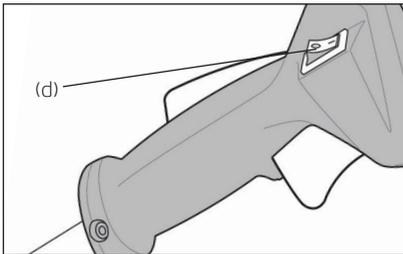

Fig 3 - Set the ignition switch (d) to the START (I) position.
- Set the ignition switch to the START ( I ) position (fig 3 page 22).